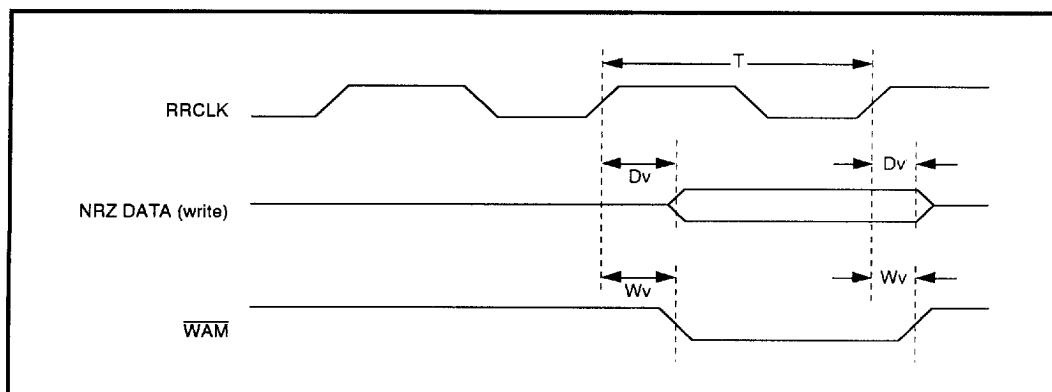

FIGURE 8: Disk Write Timing
**BUFFER MEMORY READ/WRITE TIMING PARAMETERS (Figures 8 through 13)**